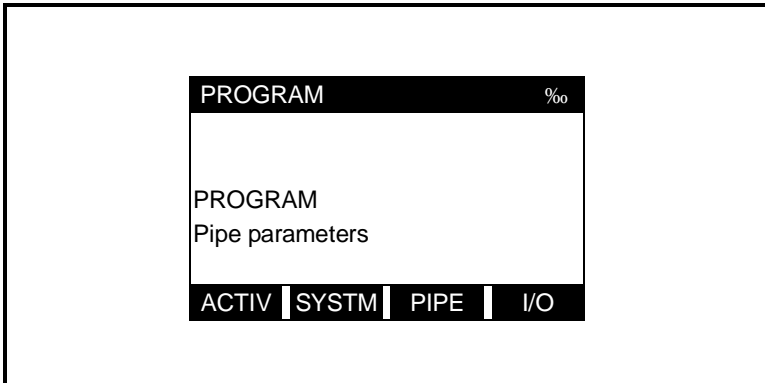

Figure 3: Screen After Pressing the PROG Key
1. Enter site data by pressing the [PROG] key on the keypad. The screen should appear similar to that in Figure 3 above.